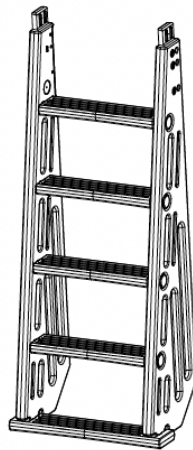

Figure 7
06. The installation method for the first six treads of the inner upright column is the same as that of the outer upright column. Refer to Figure 7 for the appearance after installation.